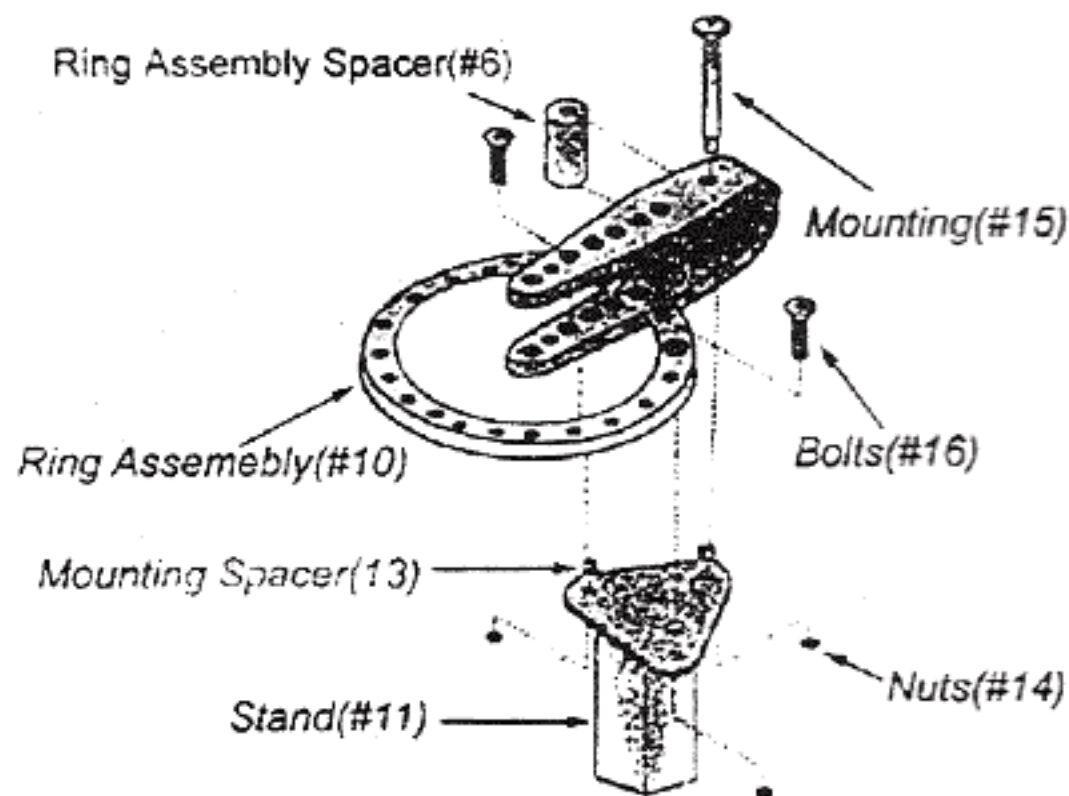

Figure 1 - Assembly
- Step 2: Place the three mounting spacers(#13) over the three holes on the top of the STAND as shown in Figure1